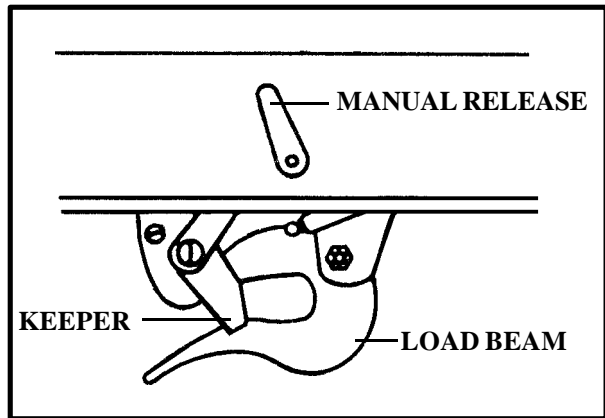
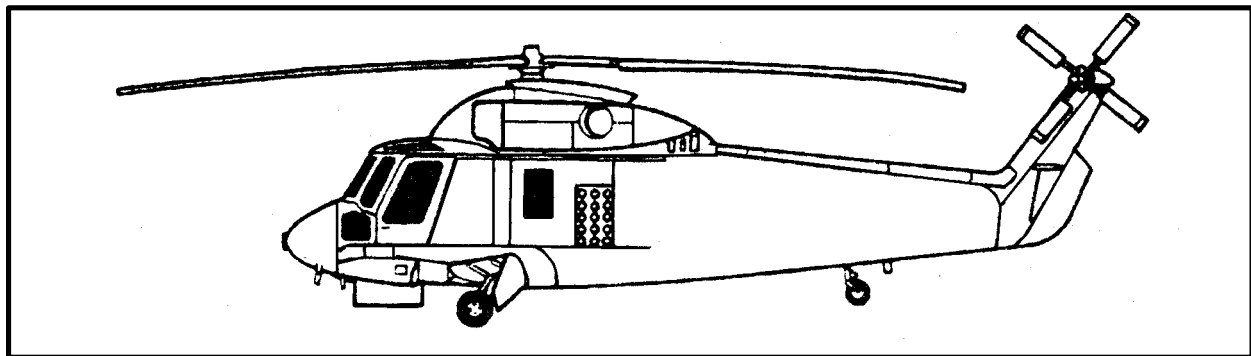

Figure 2-5. SH-2F Cargo Hook
Figure 2-4. SH-2F Sea Sprite
(3) The cargo hook is normally opened electrically or manually by the aircrew. A manual release lever is located on the left side of the cargo hook. In an emergency, the ground crew can move the lever aft and the cargo hook will open.
(4) Due to the unique shear pin design of the cargo hook, a nylon donut/web ring must be used when sling loading. Do not attach the sling set metal apex fitting directly to the cargo hook.
**b. SH-2F.** The SH-2F Sea Sprite is a twin engine, single main rotor helicopter (Figure 2-4) manufactured by Kaman Aerospace Corporation. The cargo hook maximum capacity is 4,000 pounds and is mounted under the fuselage aft of the main landing gear (Figure 2-5). The cargo hook has a small throat opening between the load beam and keeper. Some sling equipment is too large to fit on the cargo hook. Coordinate with SH-2 unit to make sure your sling equipment will fit on the cargo hook. The cargo hook is normally opened electrically or manually by the aircrew. A manual release lever is located on the left side of the cargo hook. In an emergency, the ground crew can move the lever aft to open the cargo hook.